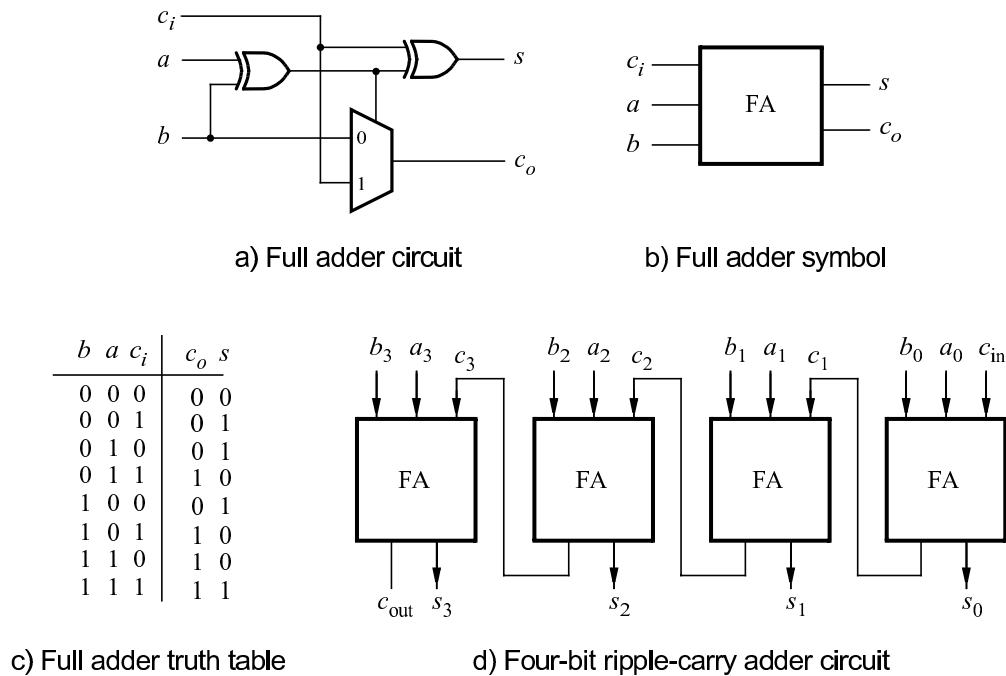

Figure 1: A ripple-carry adder circuit.
Figure 1(a) shows a circuit for a *full adder*, which has the inputs a , b , and c_i , and produces the outputs s and c_o . Parts b and c of the figure show a circuit symbol and truth table for the full adder, which produces the two-bit binary sum $c_o s = a + b + c_i$. Please note that the $+$ operator here means addition and not logic OR. Figure 1(d) shows how four instances of this full adder module can be used to design a circuit that adds two four-bit numbers. This type of circuit is called a *ripple-carry* adder, because of the way that the carry signals are passed from one full adder to the next. Write Verilog code that implements this circuit, as described below. Be sure to use what you learned about hierarchy in Lab 2.
1. Draw a schematic showing your code structure with all wires, inputs and outputs labeled. Your schematic should resemble Figure 1(d), though it should also contain module and signal labels, also showing external connections to the switches and LEDs. Be prepared to explain it to the TA as part of your preparation. **(PRELAB)**